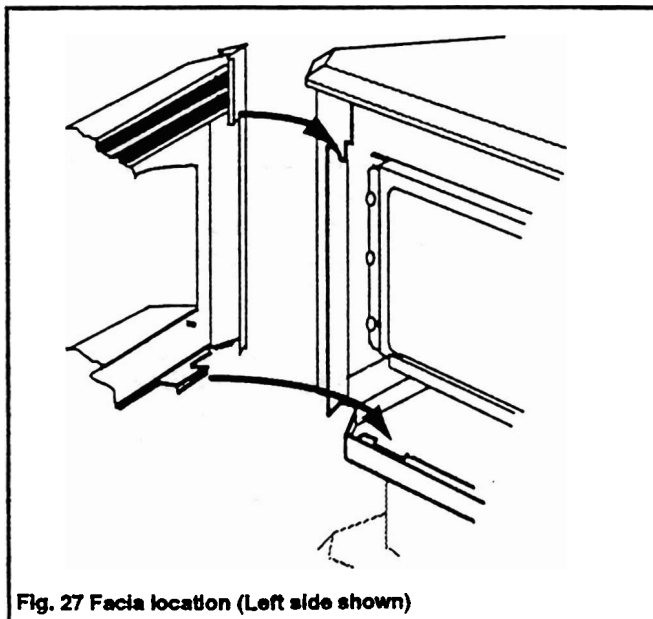

Fig. 27 Facia location (Left side shown)
- 18.2 Locate the fascia unit to the appliance front - see figure 27. Locate at the top corners and at the bottom. We suggest the following order: